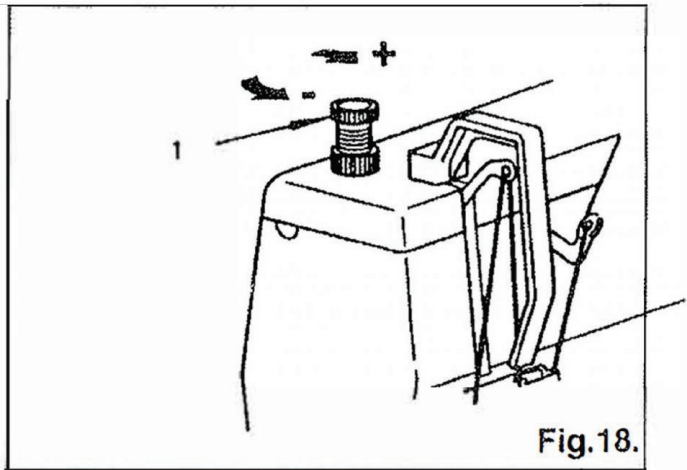

Fig.18.
To regulate the presser foot pressure, turn knurled thumb screw (1), Fig.18, toward left to right as required.